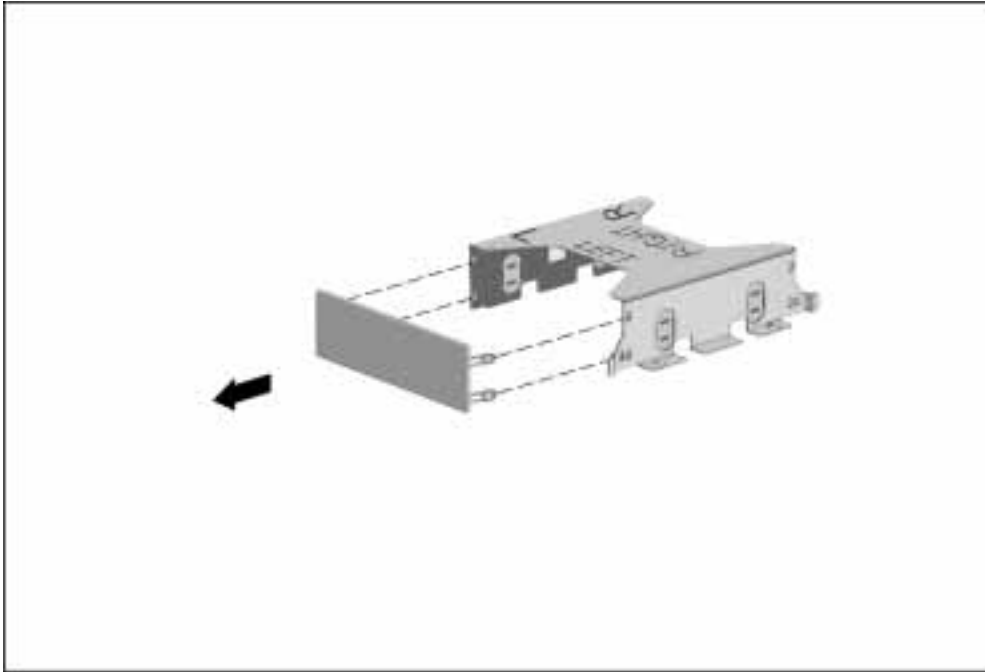

Figure 5-16. Removing the Half-Height Bay Blank Bezel Cover
3. Remove the half-height bay blank bezel cover from the drive cage (Figure 5-16).